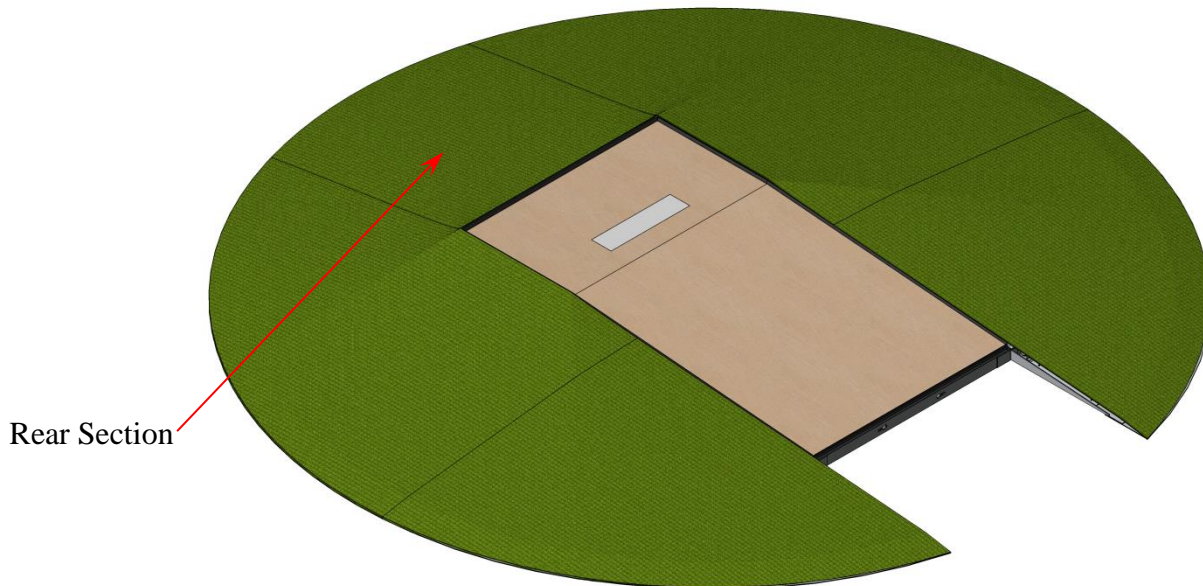

Figure 5
4. Install the Rear Section per *figure 5*. The unit straddles the Left and Right Rear Sections. Verify the Rear Section has a tight seam between the front side of the Rear Section and the rear side of the Center Section.